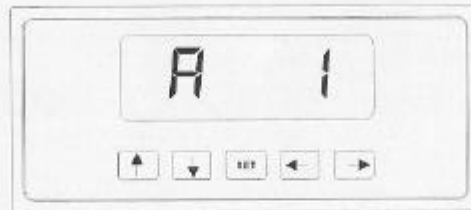
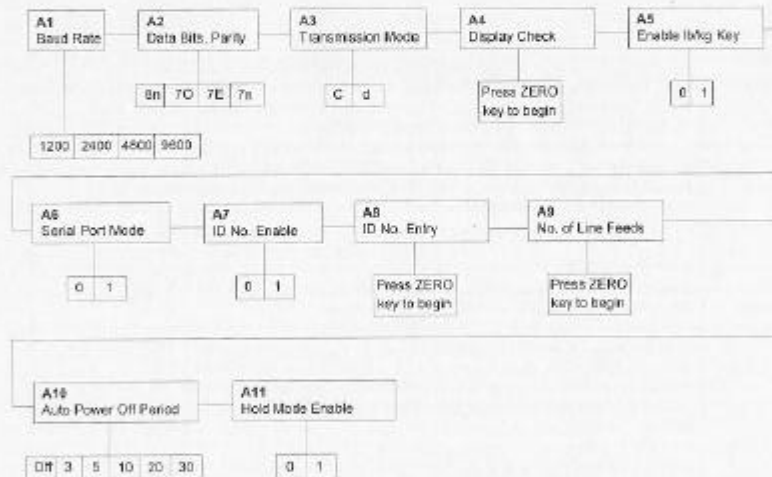

Figure 3-3: User Menu Key Assignments
Figure 3-4: User Menu Chart
2. Use the right or left directional keys shown in Figure 3-3 to move right or left in the Setup ("F") menu until the indicator shows "A -1".
Use the directional keys shown in Figure 3-3 to move around in the User Menu Chart shown in Figure 3-4 on the following page.